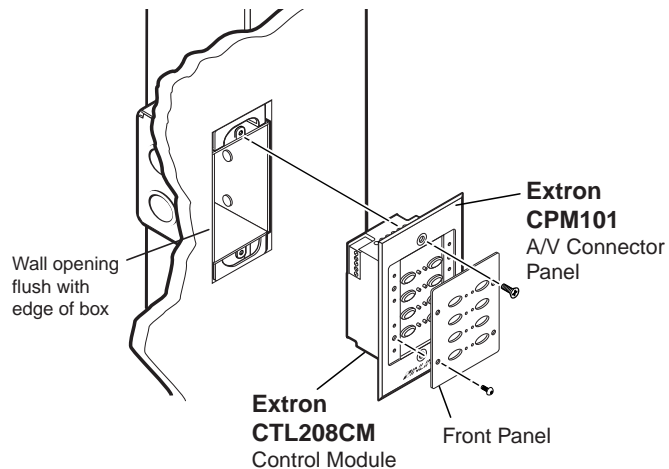

Figure 2-6 — Attaching the mini-AAP panel to a wall box
1. Sandwich the mini-AAP panel (such as a CPM101) between the control panel module (without its front panel) and the module's front panel. Secure the front panel to the control panel module with the included #4-40 screws (figure 2-6).
3. Mount the CPM101 or other mini-AAP panel (with the attached control panel module) to the wall box or mounting bracket using the two included mounting screws (figure 2-6).
NOTE Figure 2-6 shows a wall box installation. Mounting the mini-AAP panel to a mounting bracket is identical.